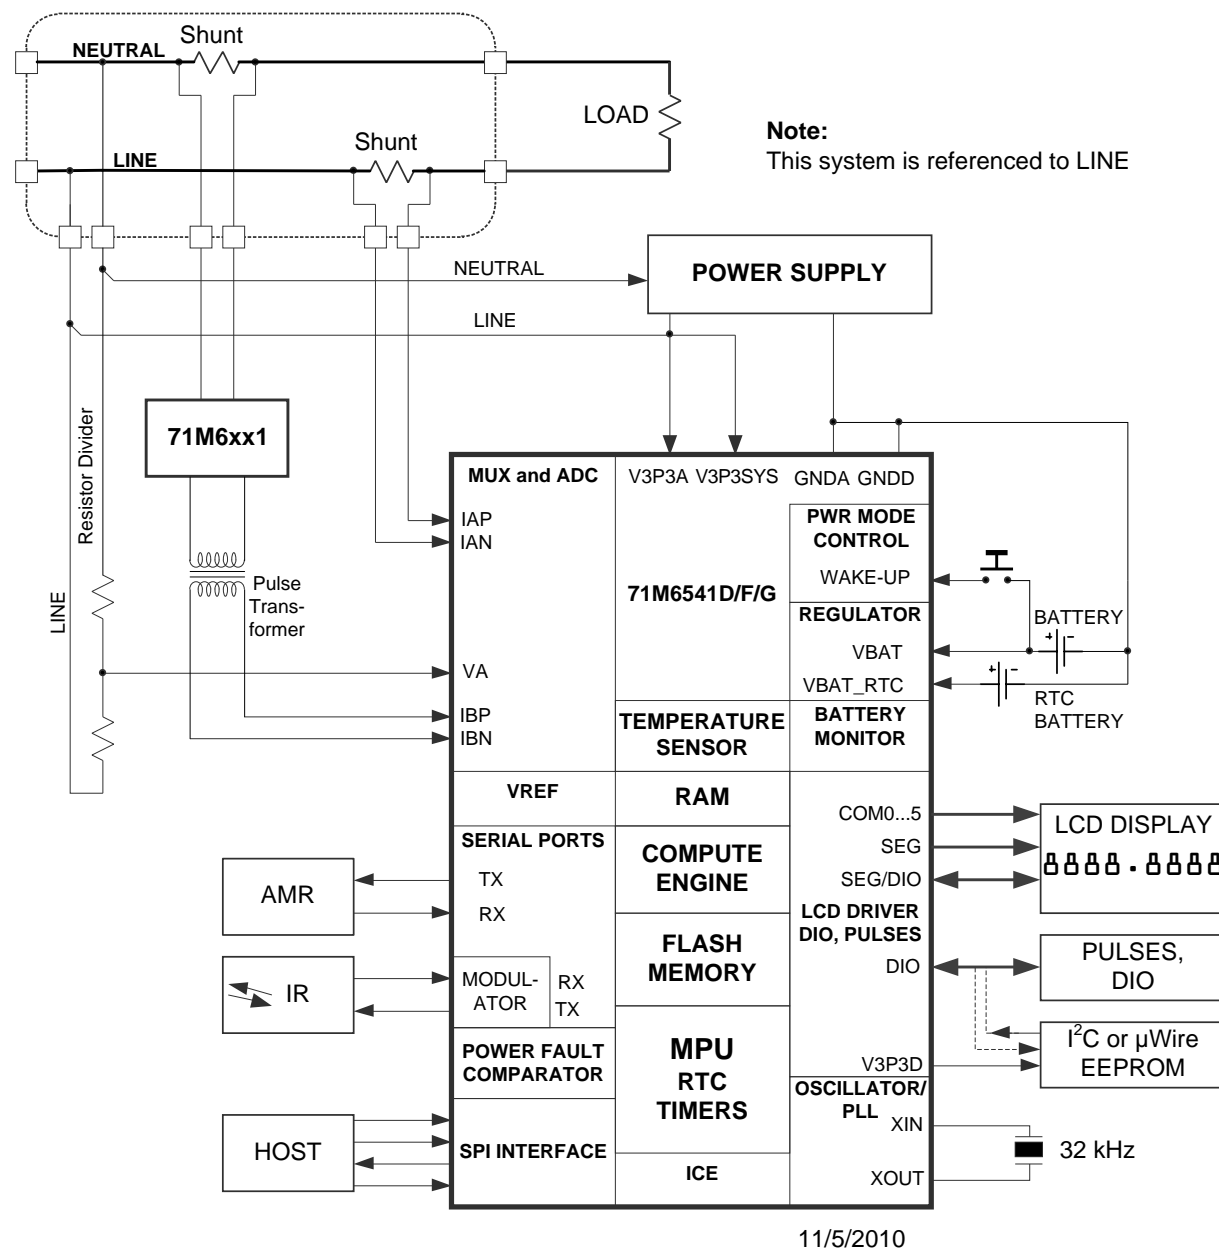
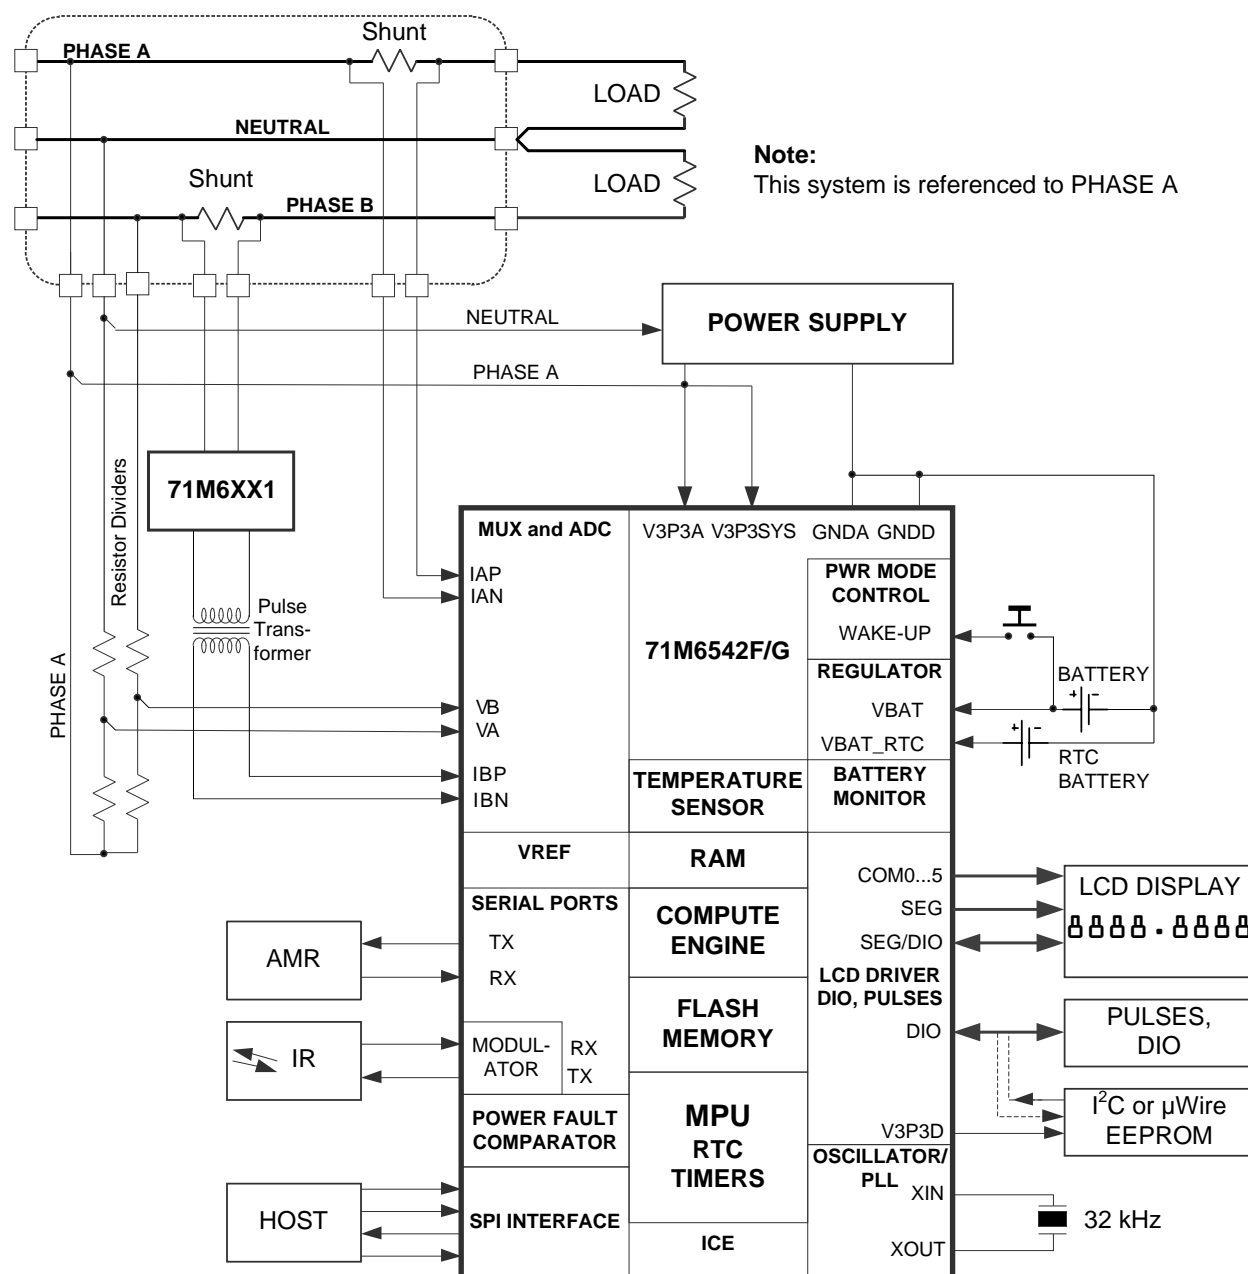

Figure 36: 71M6541D/F/G with 71M6x01 isolated Sensor
Figure 38: 71M6542F/G with 71M6x01 Isolated Sensor
Figure 36 shows a typical connection for one isolated and one non-isolated shunt sensor, using the 71M6x01 Isolated Sensor Interface. This configuration implements a single-phase measurement with tamper-detection using the second current sensor. This configuration can also be used to create a split phase meter (e.g., ANSI Form 2S). For best performance, the IAP-IAN current sensor input is configured for differential mode (i.e., $DIFFA_E = 1$, I/O RAM 0x210C[4]). The outputs of the 71M6x01 Isolated Sensor Interface are routed through a pulse transformer, which is connected to the pins IBP-IBN. The IBP-IBN pins must be configured for remote sensor communication (i.e., $RMT_E = 1$, I/O RAM 0x2709[3]). See Figure 3 for the AFE configuration corresponding to Figure 36.
Figure 38 shows a 71M6542F/G configuration using locally connected current sensors. The IAP-IAN current channel may be directly connected to either a shunt resistor or a CT, while the IBP-IBN channel is connected to a CT and is therefore isolated. This configuration implements a dual-phase measurement utilizing Equation 2. For best performance, both the IAP-IAN and IBP-IBN current sensor inputs are configured for differential mode (i.e., $DIFFA_E = 1$ and $DIFFB_E = 1$, I/O RAM 0x210C[4] and 0x210C[5]). The IBP-IBN input must be configured as an analog differential input disabling the remote sensor interface (i.e., $RMT_E = 0$, I/O RAM 0x2709[3]). See Figure 4 for the AFE configuration corresponding to Figure 38.
Figure 38 shows a typical two-phase connection for the 71M6542F/G using one isolated and one non-isolated sensor. For best performance, the IAP-IAN current sensor input is configured for differential mode (i.e., *DIFFA_E* = 1, *I/O RAM 0x210C[4]*). The 71M6x01 Isolated Sensor Interface is used to isolate phase B. The outputs of the 71M6x01 Isolated Sensor Interface are routed through a pulse transformer, which is connected to the pins IBP-IBN. The IBP-IBN pins must be configured for remote sensor communication (i.e., *RMT_E* = 1, *I/O RAM 0x2709[3]*). See Figure 5 for the AFE configuration corresponding to Figure 38.
This section discusses metrology temperature compensation for the meter designs where current shunt sensors are used in conjunction with the 71M6x01 isolated sensors, as shown in Figure 36 and Figure 38.
Referring to Figure 36 and Figure 38, the VA voltage sensor is available in the 71M6541D/F/G and 71M6542F/G and is directly connected to the 71M654x. The VB voltage sensor is available only in the 71M6542F/G and is also directly connected to it. Thus, the precision of these directly connected voltage sensors is affected by VREF in the 71M654x. The 71M654x also has one shunt current sensor (IA) which is connected directly to it, and therefore is also affected by the VREF in the 71M654x. The external current sensor and its corresponding signal conditioning circuit also has a temperature dependency, which also may require compensation, depending on the required accuracy class. Finally, the second current sensor (IB) is isolated by the 71M6x01 and depends on the VREF of the 71M6x01, plus the variation of the corresponding shunt resistance with temperature.